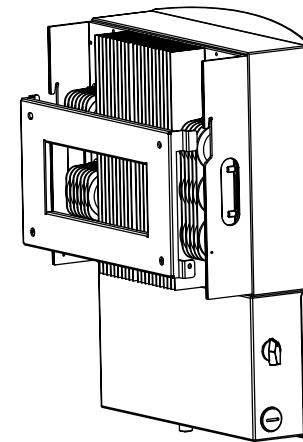

Figure 4.5 Wall Mount Bracket
2. Lift up the inverter (be careful to avoid body strain), and align the back bracket on the inverter with the convex section of the mounting bracket. Hang the inverter on the mounting bracket and ensure the inverter is secure (see Figure 4.5)